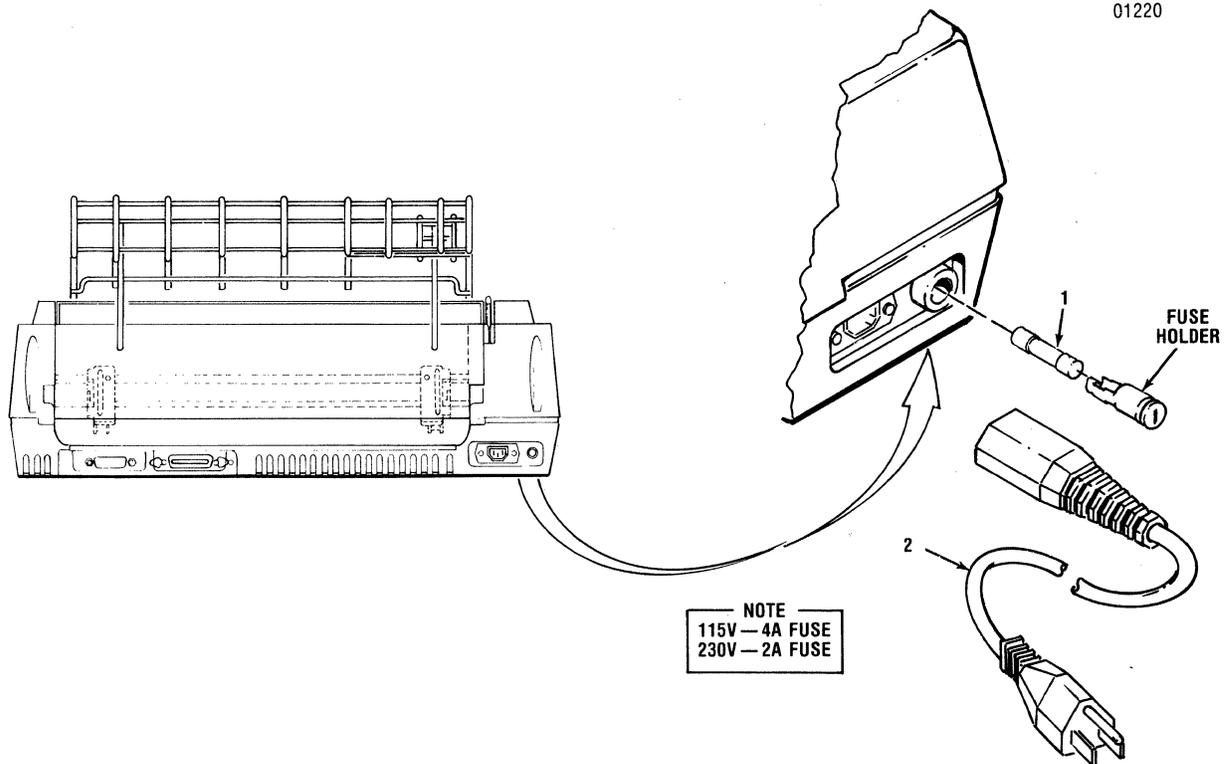

Figure 5-21 Removal/Replacement, Main Fuse and Power Cord
The main fuse, item 1A or 1B of Figure 5-21, is located in the rear of the printer and is removed using a slotted head screwdriver. To remove the fuse, refer to Figure 5-21 and perform the following steps:
Ensure the same type rated fuse is installed when replacing the fuse. Refer to Figure 5-21.
The 8 foot power cord, item 2A or 2B of Figure 5-21, is terminated on one end with a 3-prong grounded plug and terminated on the other end with a 3-prong receptacle. The cord is removed from the printer by removing the plug end from the external power source, then the receptacle end from the printer. Refer to Figure 5-21.